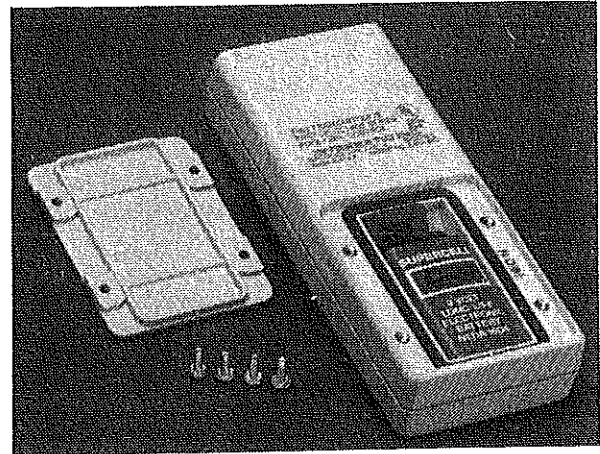

Fig. 9.
1. Using a small screwdriver, carefully remove the four screws on back of the transmitter (Fig. 9.), and lift off battery compartment cover.